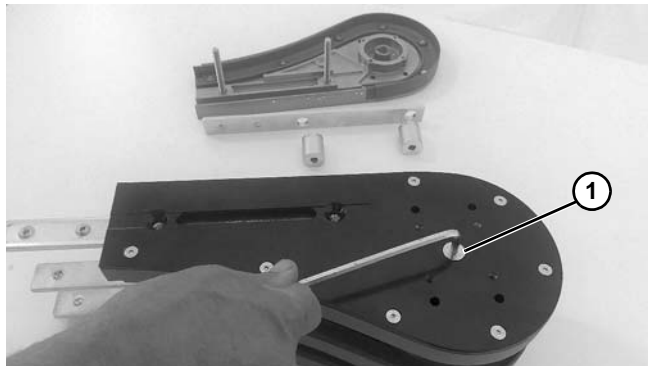

Figure 114
3. Remove flat head screw (**Figure 114, item 1**).